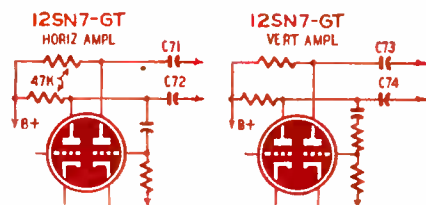

Fig. 1—Horizontal and vertical amplifier circuits of Hallicrafters 505.
Insufficient width, width control ineffective. Open 47,000-ohm plate resistors in 12SN7-GT horizontal amplifier. (See Fig. 1.)
**505.** Picture deflected toward upper right of screen (vertical or horizontal centering controls ineffective). Leaky .05- $\mu$ f, 6-kv coupling capacitor C73 (Fig. 1), .0005- $\mu$ f, h.v. 6-kv capacitor